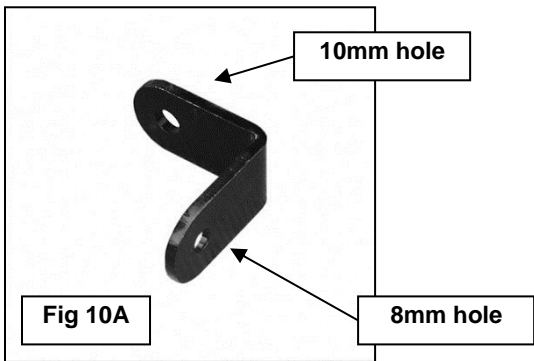

Fig 10A
9. Next, select (1) "L" rear Support Bracket, **(Figure 10A)**. Bolt the Support Bracket to the front facing side of the rear Mounting Bracket with (1) 10mm x 30mm Hex Bolt, (2) 10mm x 20mm STD Flat Washers and (1) 10mm Nylon Lock Nut, **(Figures 10B)**. Do not tighten hardware at this time.